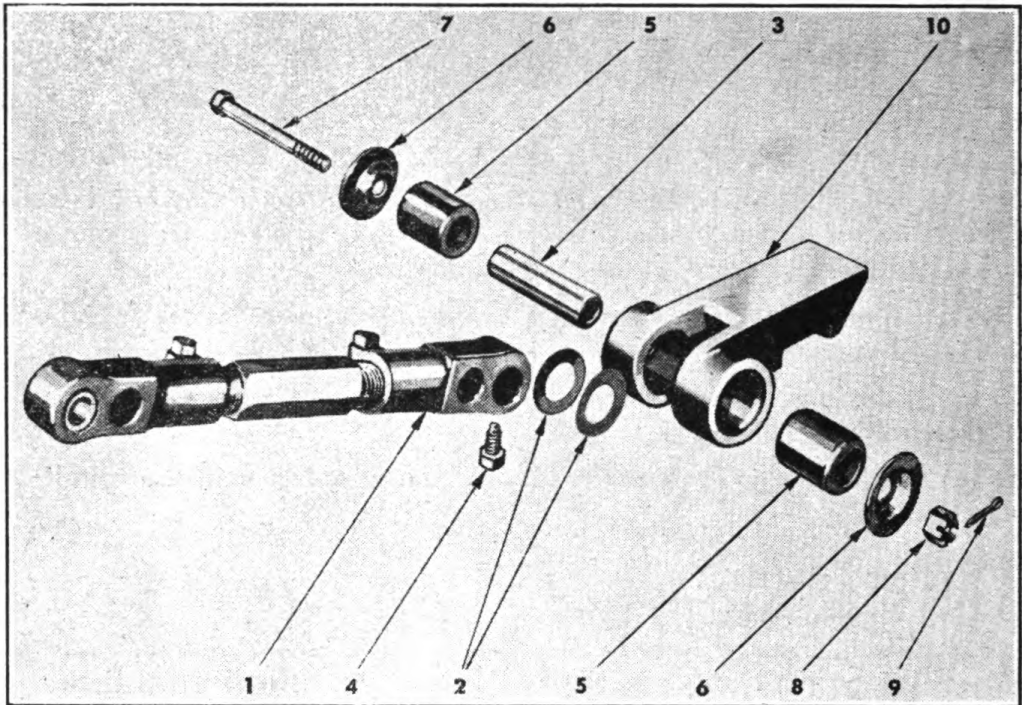

FIGURE 70. RADIUS ROD—EXPLODED.
(2) *Replacement* (Fig. 70).—(a) NOTE: One end of radius rod has spindle lock screw hole in the end. The other end has lock screw hole at the bottom. Place radius rod in position with the end hole to front in the spring hanger. The other end, which fits into bracket at axle, should be down. Axle end of radius rod is more difficult to connect, therefore it should be coupled first.